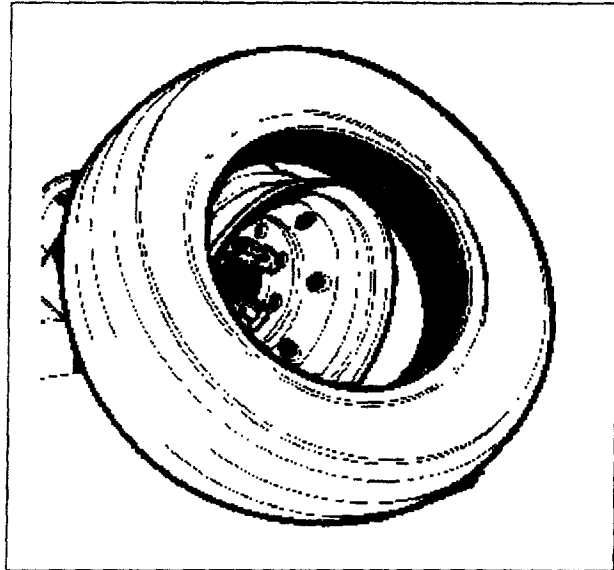

Fig.24
1. Liberally lubricate the entire inner surface of the rim and the tyre beads. Move the chuck arm all the way down. Roll the tyre on the footboard and hang it onto the rim (Fig.24).